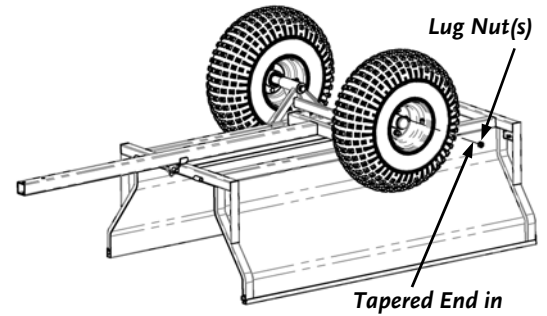

Figure 13
11. Install the Wheel with the Valve Stem on the outside of the Wheel. Install the four Lug Nuts with the tapered end facing inward (**Figure 13**). Tighten the Lug Nuts using a 5" Socket Extension and a 21mm Socket. The Lug Nuts will be torqued later with the Wheels on the ground. Repeat for the other side.